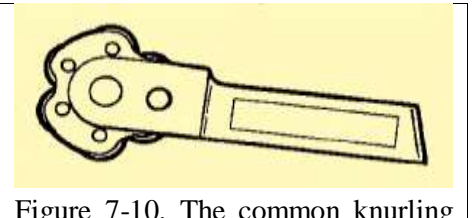

Figure 7-10. The common knurling tool.
**The Knurling Tool:** Consists of two cylindrical cutters, called knurls, which rotate in a specially designed tool holder. The knurls contain teeth which are rolled against the surface of the workpiece to form depressed patterns on the workpiece. The common knurling tool accepts different pairs of knurls, each having a different pattern or pitch. The diamond pattern is most widely used and comes in three pitches: 14, 21, or 33. These pitches produce coarse, medium, and fine knurled patterns. (Figure 7-10).